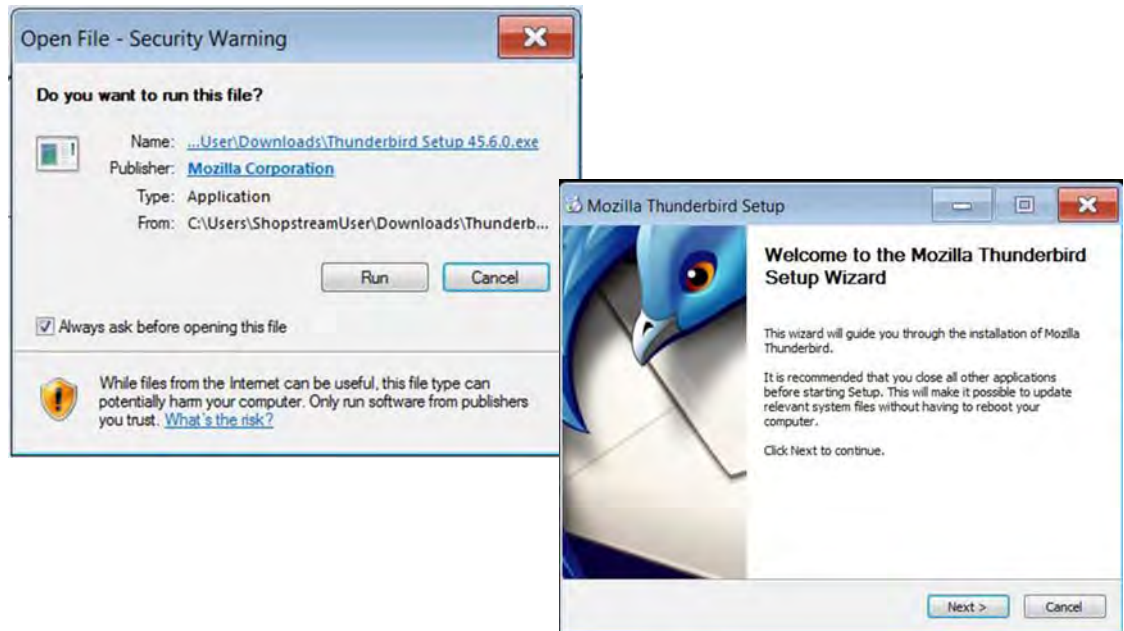

Figure 12-10
2. Install the software following the screen prompts (Figure 12-10).